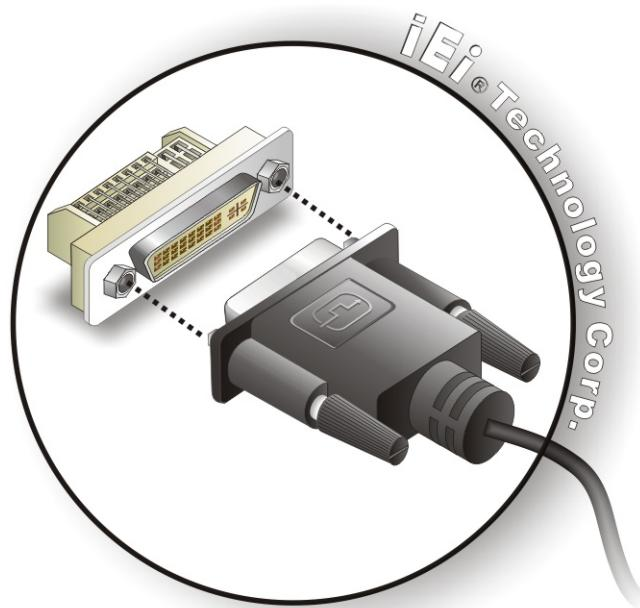

Figure 4-15: DVI Connector
Step 3: Insert the DVI-I connector Once the connectors are properly aligned with the male connector, insert the male connector from the digital display device into the female connector on the NANO-QM57A. See Figure 4-15.